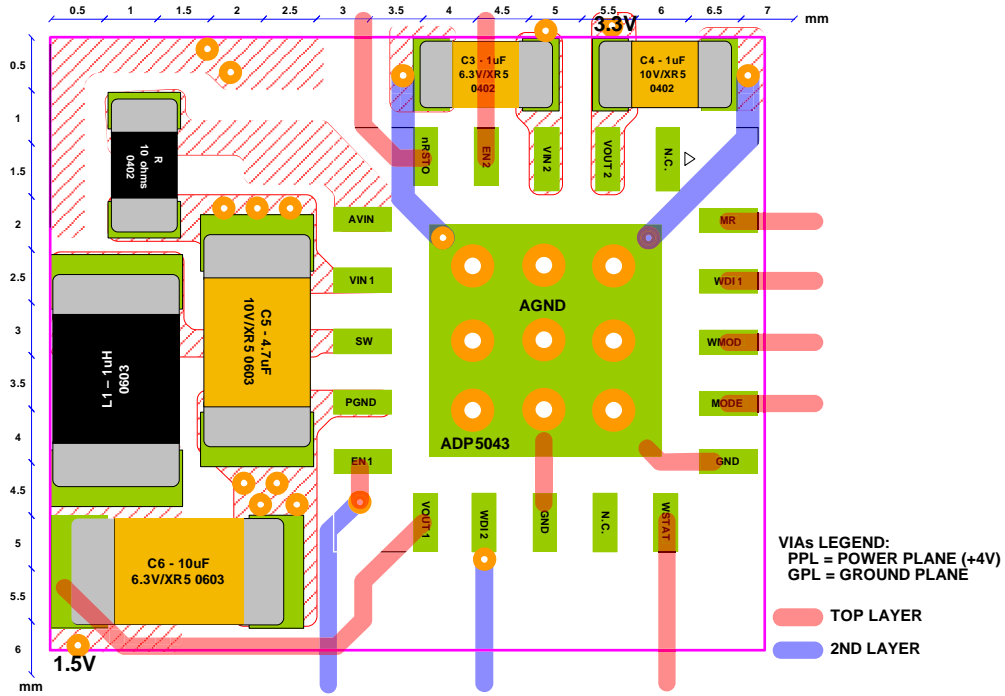

Figure 55. Layout
The typical θ_{JA} value for the 20-lead, 4 mm × 4 mm LFCSP is 38°C/W, see Table 7. A very important factor to consider is that θ_{JA} is based on a four-layer 4" × 3", 2.5 oz copper, as per Jecdec standard, and real applications may use different sizes and layers. It is important to maximize the copper used to remove the heat from the device, and copper exposed to air dissipates heat better than copper used in the inner layers. The thermal pad (TP) should be connected to the ground plane with several vias as shown in Figure 55.